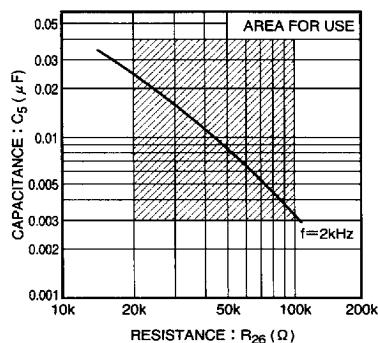

Fig. 7 Value of external components for oscillator ($V_{cc} = 5.0V$)
- 3) The external resistor R₂₆ connected to the oscillator (pin 28) should be in the range of 20k Ω and 100k Ω. If it is outside this range, oscillation may stop due to the influence of temperature (see Fig. 7).